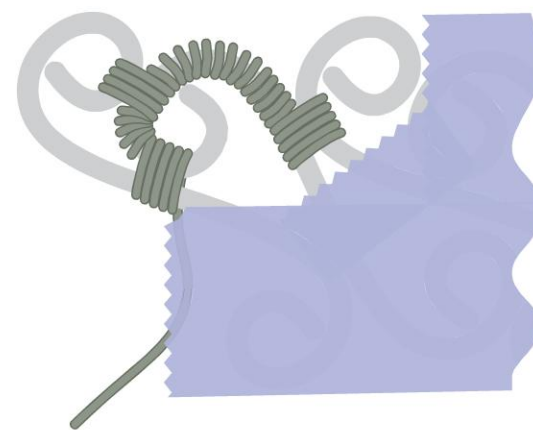

figure 5
- 13 Remove or add tape as necessary. Coil the individual scroll up to where it touches the previous scroll, then coil these scrolls together (Figure 5).